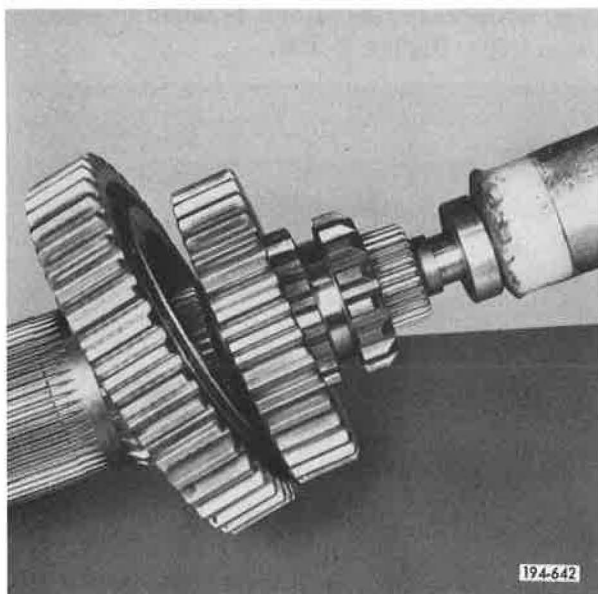

Figure 5-958. Installing Bearing
19. Install spigot bearing onto front of front mainshaft, using a soft mallet or a suitable driving sleeve. Apply force to the inner race only. See **Figure 5-958**.